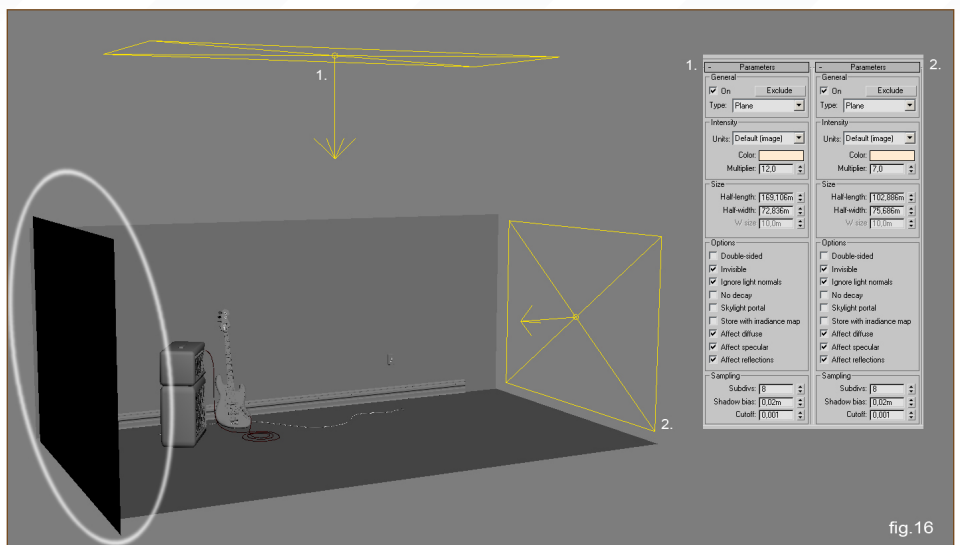

fig. 16
After I imported into Max all of the *.obj files that I exported into Maya, I started setting the lighting up in the scene. I used two Vray lights: one at the top (1) and the other at one side (2). I also put a plane on the other side to act like a wall and bounce some light (Fig16).